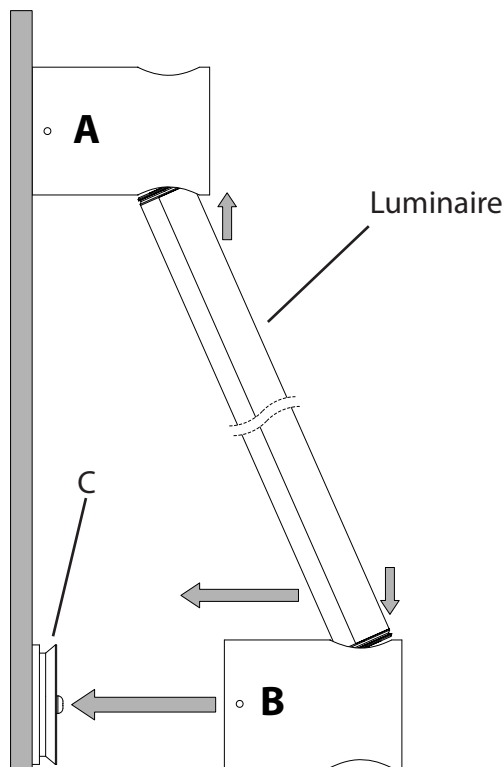

Fig. 11
1. Designate the two connectors on each side of the Luminaire as **A** and **B** (Fig. 11). Leave **Connector A** fully installed to mounting surface. Remove **Connector B** from its mounting bracket (C) by loosening set screws with included Allen key.